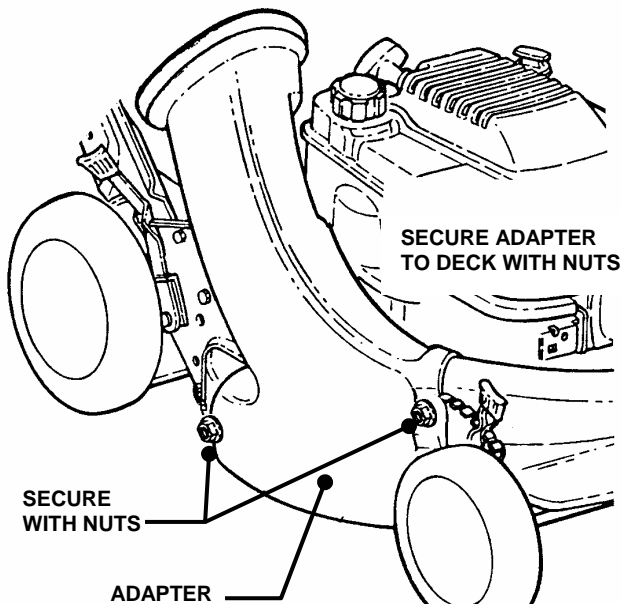

FIGURE 2.9
STEP 1: Install the grass bag adapter and secure to the side and top of the deck with the two nuts provided on the machine. Slot in front edge of adapter must be under nut located on top of deck. See Figure 2.9.